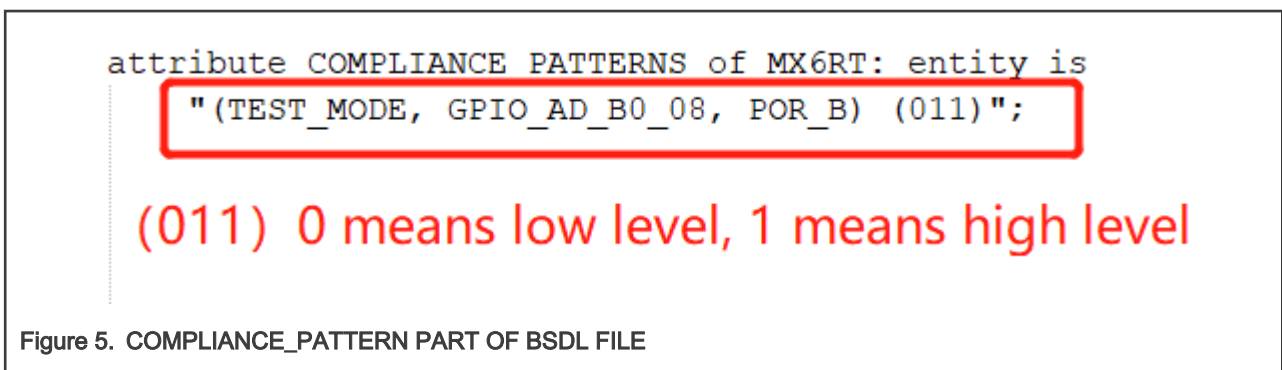
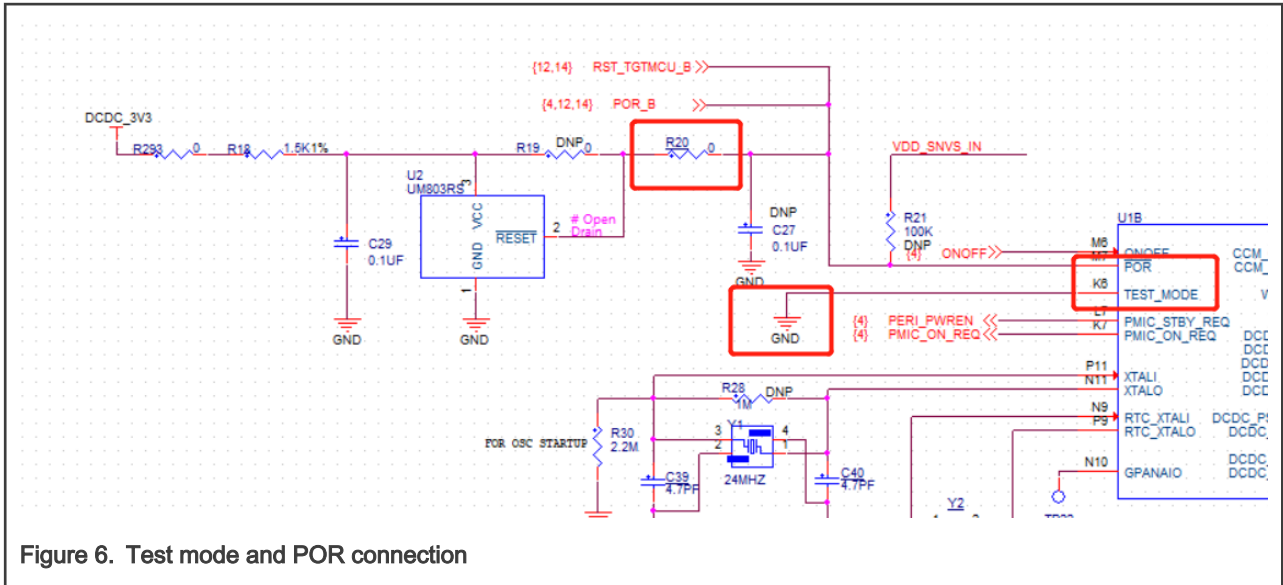

Figure 5. COMPLIANCE_PATTERN PART OF BSDL FILE
Figure 6. Test mode and POR connection
3. Check the signals of three pins, **TEST_MODE**, **GPIO_AD_B0_08**, **POR_B**, according to the settings corresponding to the **COMPLIANCE_PATTERN** part of the **BSDL** file. They should have the same status, **011**, on the EVK board. Figure 5 is **compliance_patterns** part of the **BSDL** file. Figure 6 shows test mode and the **por_b** connection.